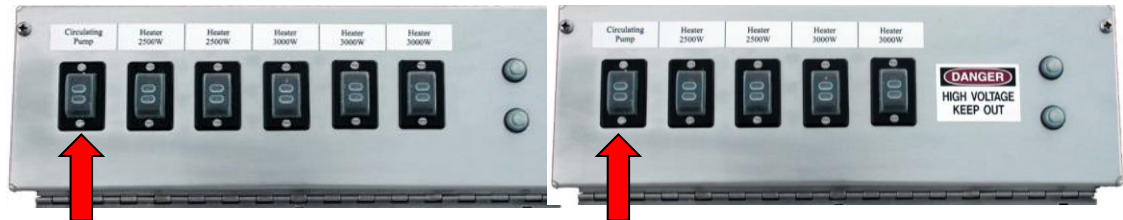

Figure 9. Turning on the pump (Control panel may vary)
5. Activate the Pump by switching the pump switch from the off position to the on position as seen in Figure 9: (Optional Booster Pump controlled by main pump switch)